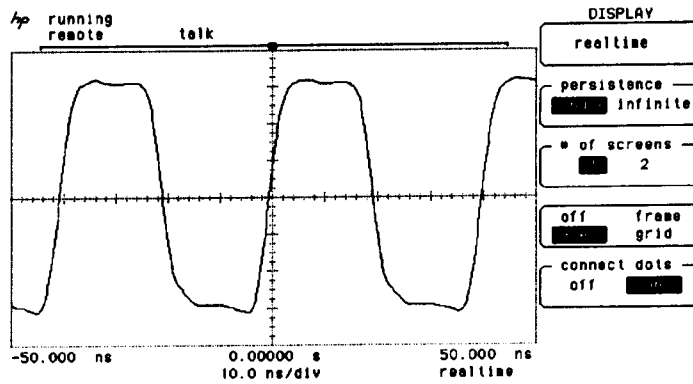

Figure 9-7. Maximum Vertical Signal Setup
- Select the **CHANNEL MENU** and set volts per division for a full-scale, but not clipped, display. Use the vernier of the pulse generator, if necessary, to set the signal to full scale as in figure 9-7.